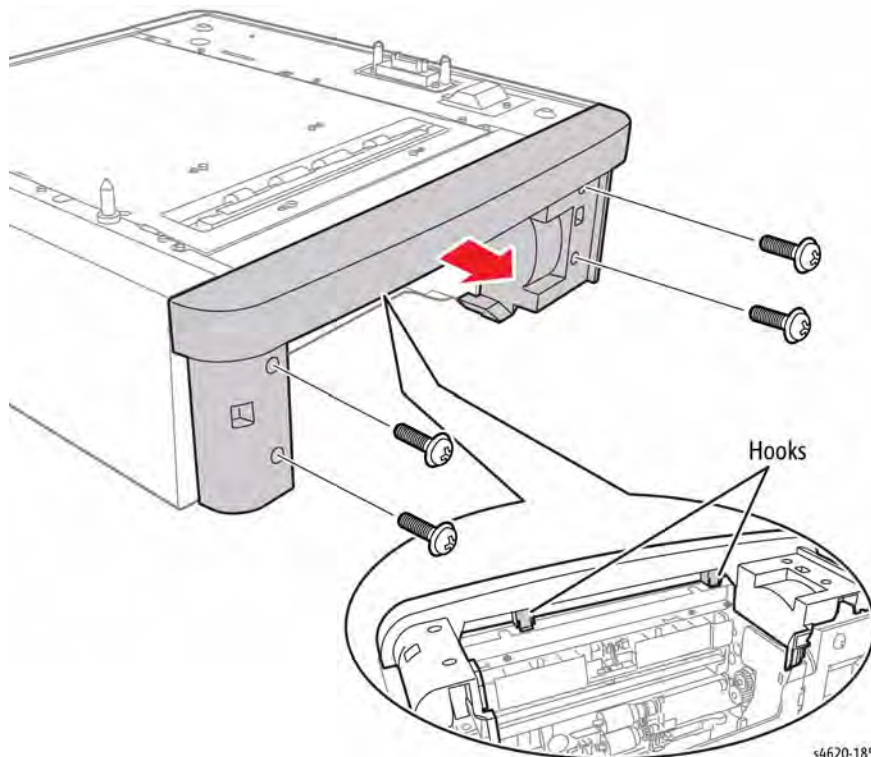

Figure 1 Remove the Front Cover
2. Remove 4 screws and lift to release 2 hooks that secure the Front Cover, Figure 1.